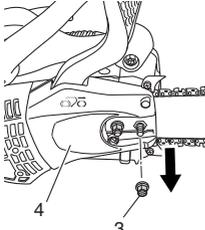

Fig. 3
2. Remove guide bar clamp nuts (3). Remove the side case (4). (Fig. 3)